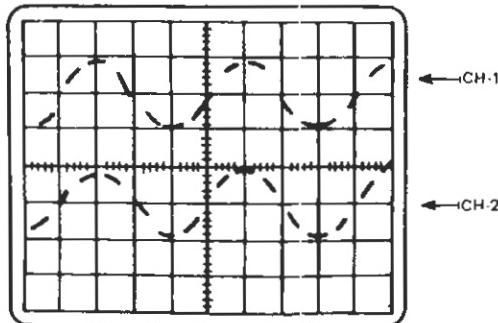

Figure 2-11. CHOP display at sweep speeds above 0.5 mS/div
- 2 Press either ALT or CHOP V MODE pushbutton (16). Press ALT for relatively high frequency displays (A TIME/DIV switch set at .2 mS or faster); press CHOP for relatively low-frequency displays (A TIME/DIV switch set at .5 mS or slower). If the CHOP pushbutton is pressed when fast sweep speeds are used, the displayed traces will appear broken (as in Figure 2-11) when signals are applied. If the ALT pushbutton is pressed when slow sweep speeds are used, the display will flicker excessively.